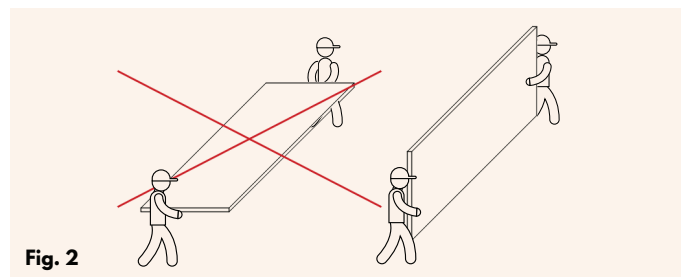

Fig. 2
*VMG Lignum Board | Floor* should be carried by hand in a vertical position, not horizontal, in order to avoid breaking (Fig. 2).